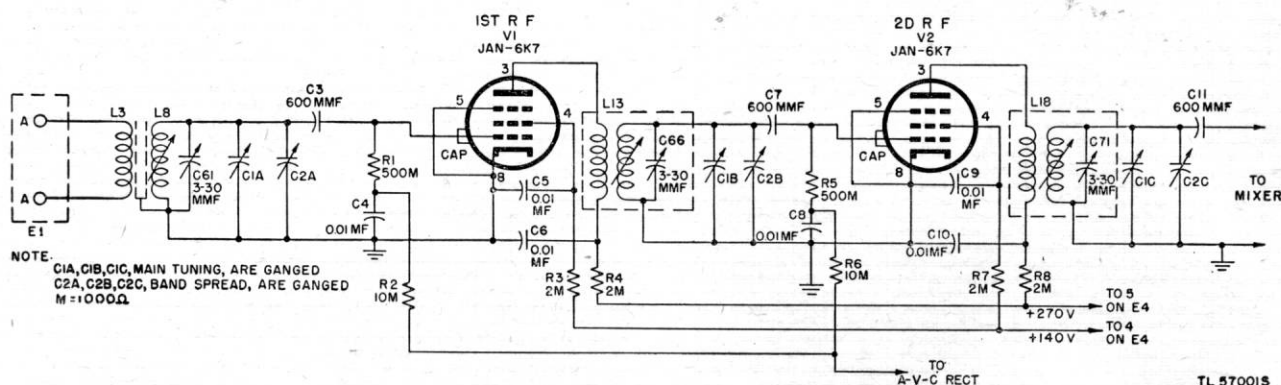
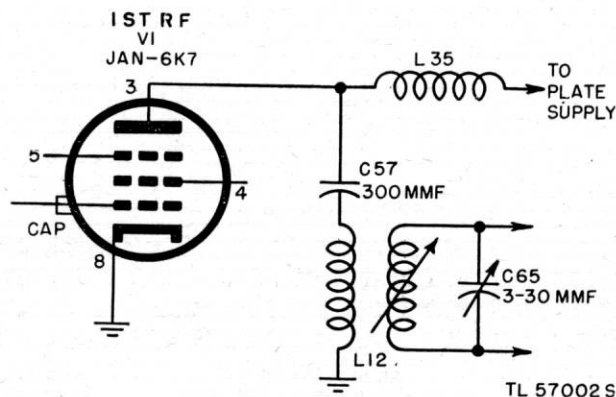

Figure 25. Radio Receiver BC-779-B, functional diagram of r-f amplifier.
Figure 26. Radio Receiver BC-794-B, functional diagram of 1st r-f stage.
59. R-F Amplifier (fig. 25)
For simplicity, only the circuits for the 2.5- to 5.0-mc band are shown and the band switching arrangement is omitted from figure 25. The band switching circuits are discussed in paragraph 68.
c. DIFFERENCES IN R-F CIRCUITS. (1) *Plate supply*. In Radio Receivers BC-779-(*), BC-1004-(*), and R-129/U, plate voltage is series-fed through resistance-capacitance (R-C) decoupling circuits and the r-f transformer primaries (fig. 25). In Radio Receiver BC-794-(*) plate voltage is shunt-fed by means of choke L35 and 300-mmF capacitor C57 in the first stage, and choke L36 and 300-mmF capacitor C58 in the second stage (figs. 26 and 57). This method was chosen to keep plate voltage off the tuned impedance interstage coupling circuits L49, C99, and L50, C100, of the 20-40-mc band. Decoupling filters R4, C6, and R8, C10, are not included.